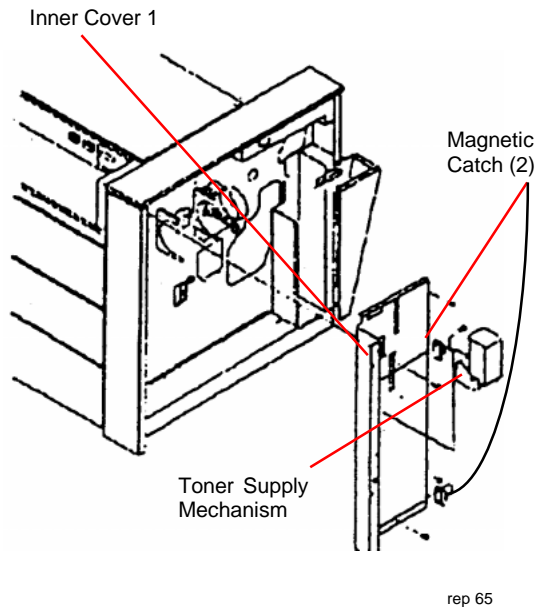

Figure 1. Removing the Inner Cover
2. (Figure 1): Remove the Toner Supply mechanism and the Magnetic Catches at the right side of the machine. Remove Inner Cover 1.